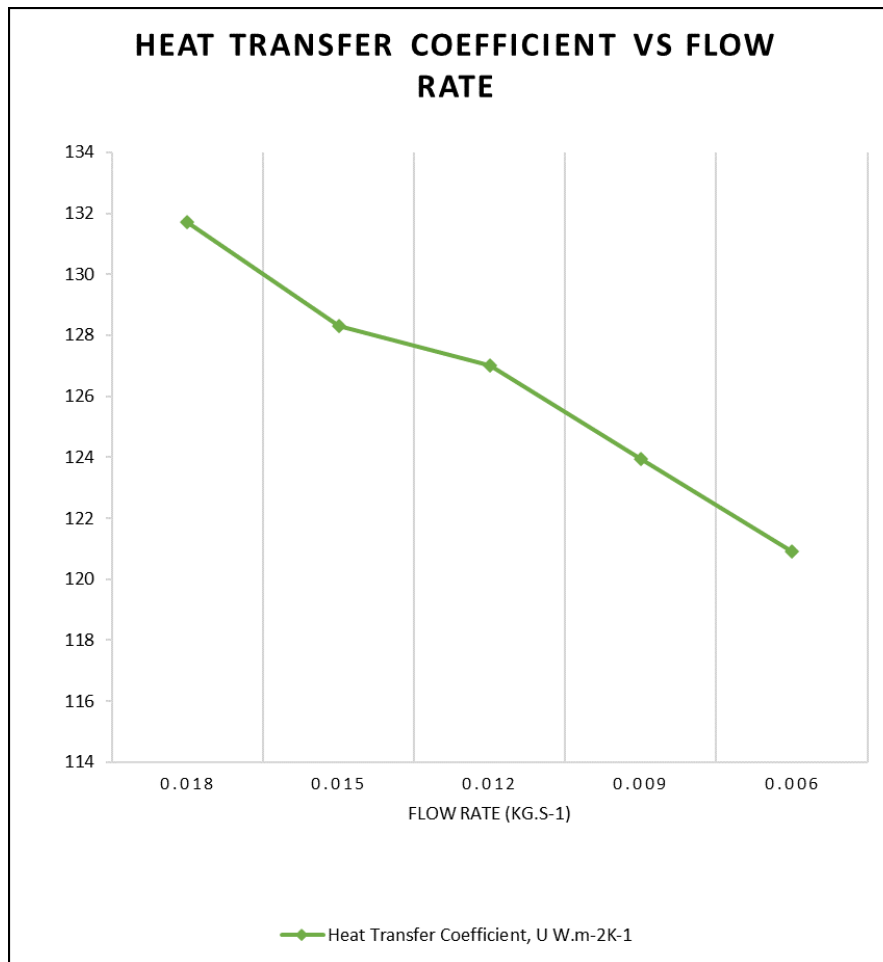
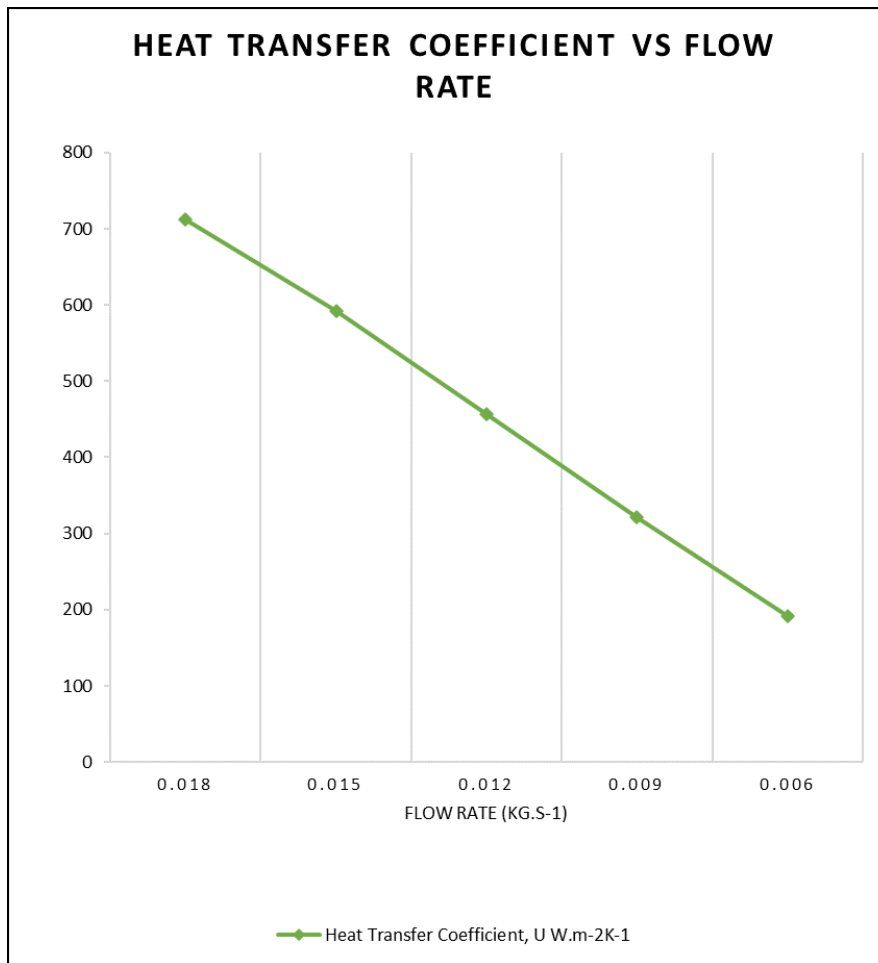

Figure 21. Heat transfer coefficient vs Flow rate
Figure 22. Heat transfer coefficient vs Flow rate
- The air flow rate and the rate of heat transfer are directly proportional. Figures 21 and 22 show that when the air flow rate rises, so do the heat transfer coefficient. This is because a larger air flow rate allows for a greater exchange of heat between the two fluids. When the flow rate is highest, the heat transfer coefficient is also highest. The hot stream exponentially cools down and the cold stream exponentially heats up. Figure 21 also shows some possible slight errors because the line trend is not as clean as the one on Figure 22.